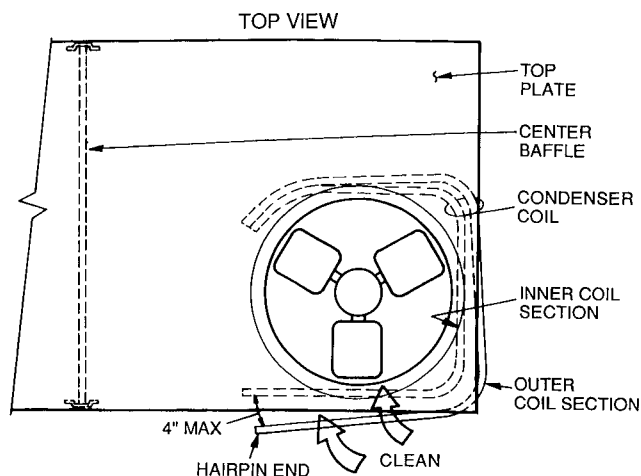

Fig. 29 — Separating Coil Sections
10. Carefully separate the outer coil section 3 to 4 in. from the inner coil section. See Fig. 29.